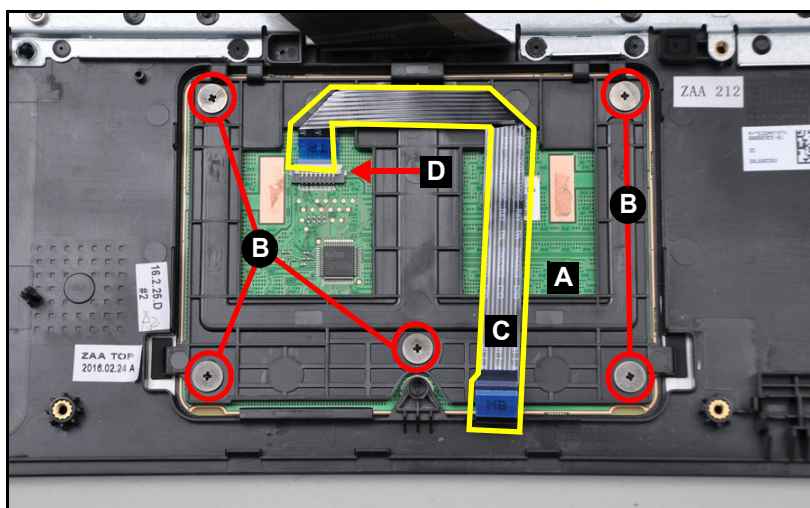

Figure 3-90. Replacing the Touchpad Module
2. Install and secure five (5) screws (B) to the touchpad module (A) (Figure 3-90).
3. Connect the touchpad FPC (C) to its connector (D) (Figure 3-90).